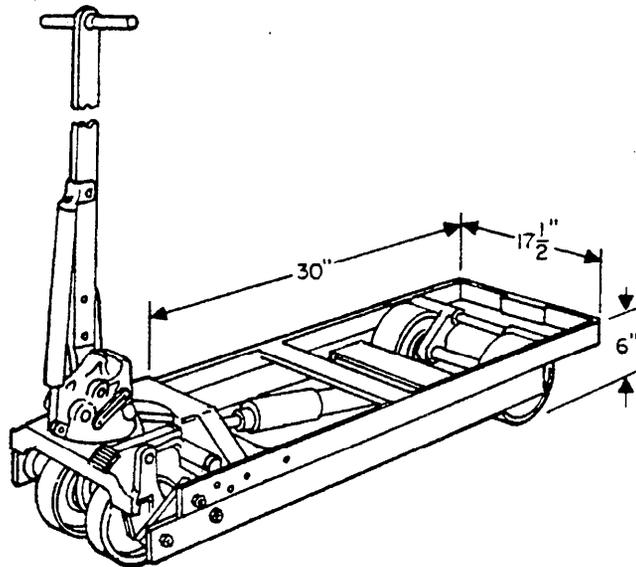

Figure 6. Typical Hand-Lift Trunk Showing Approximate Dimensions for Use Under Skid.
6.03 Transport the unpacked cell to the battery hoist with a suitable hand-lift trunk (Figure 6). Do not tilt a cell more than 15 degrees.